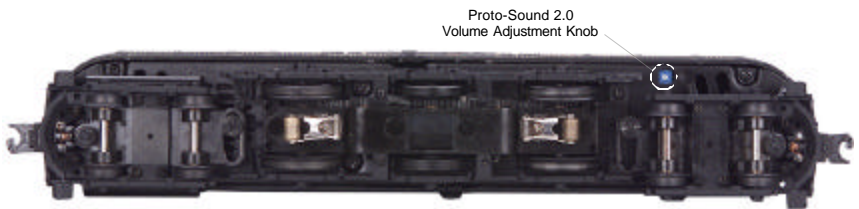

Figure 1. Proto-Sound 2.0 Volume Adjustment Knob
**Volume Control** –To adjust the volume of all sounds made by this engine, turn the master volume control knob located under the engine clockwise to increase the volume and counter-clockwise to decrease the volume (see Fig. 1).